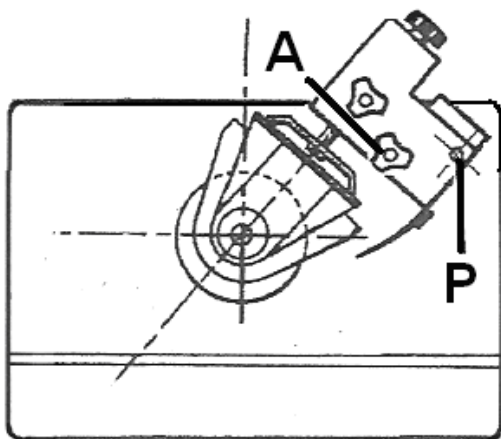

Fig 21
The machine table is therefore prepared with a M8 tapped hole (A, Fig 21) and an 8mm pinhole (P).